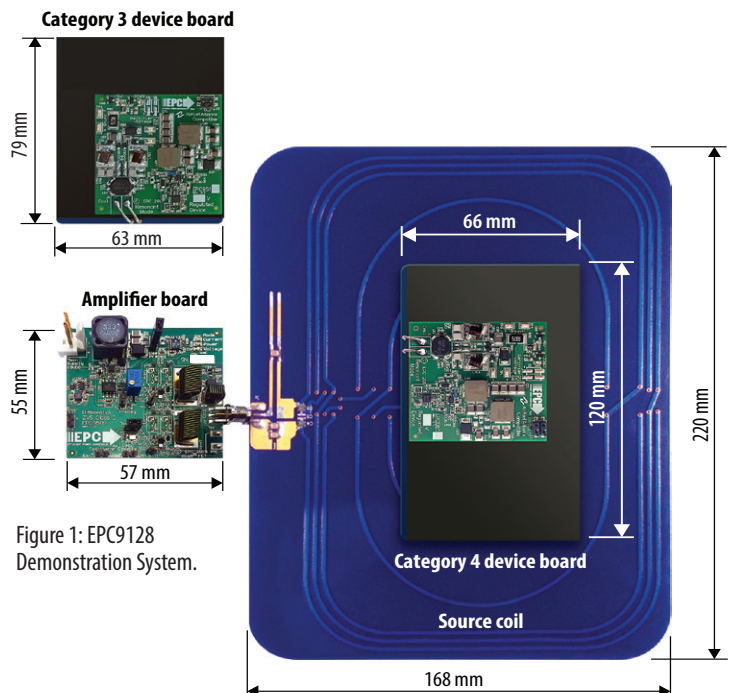
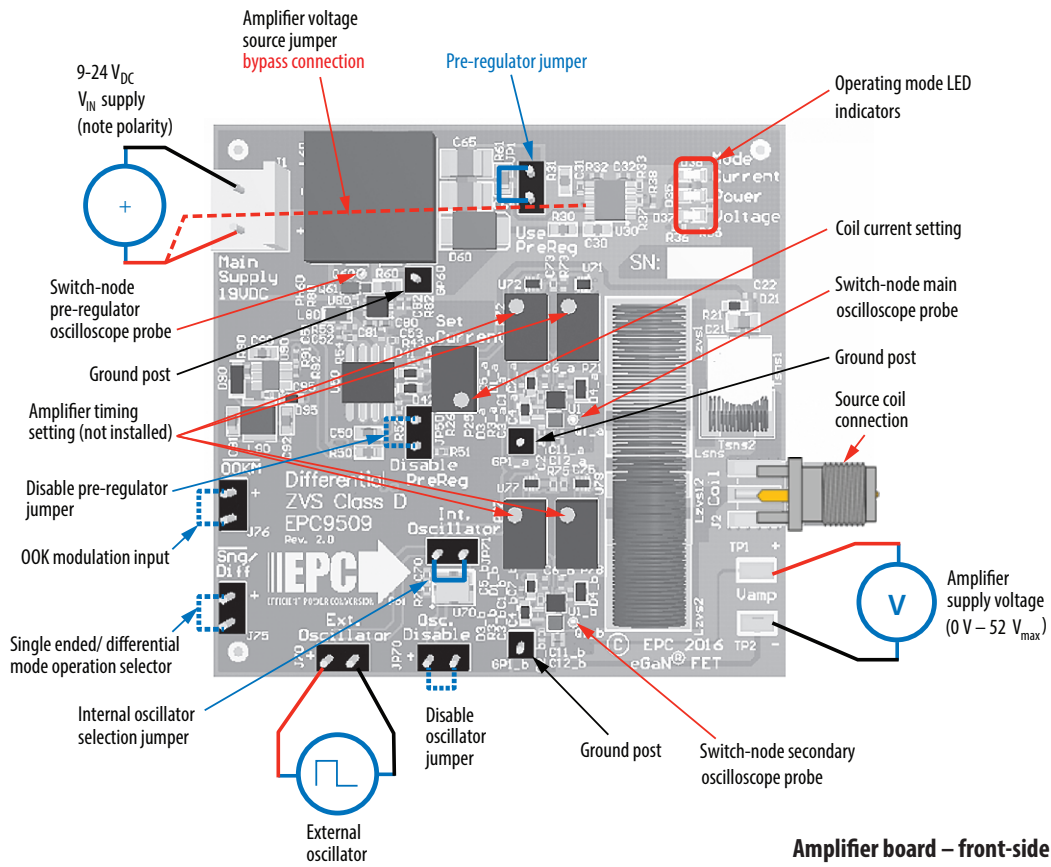

Figure 1: EPC9128 Demonstration System.
Figure 6: Proper connection and measurement setup for the amplifier board.
The EPC9128 wireless power system is comprised of three boards (shown in figure 1):
The assembly of the EPC9128 Wireless Demonstration kit is simple and shown in figure 1. The source coil and amplifier have been equipped with SMA connectors. The source coil is simply connected to the amplifier. The device board does not need to be mechanically attached to the source coil.
The EPC9128 demonstration system is easy to set up and evaluate the performance of eGaN FETs and ICs in a wireless power transfer application. Refer to figure 1 to assemble the system and figures 6 through 8 for proper connection and measurement setup before following the testing procedures.
2. With power off, connect the main input power supply bus to J1 as shown in figure 6. Note the polarity of the supply connector.
2. With power off, connect the main input power supply bus to the bottom pin of JP1 and the ground to the ground connection of J1 as shown in figure 6.